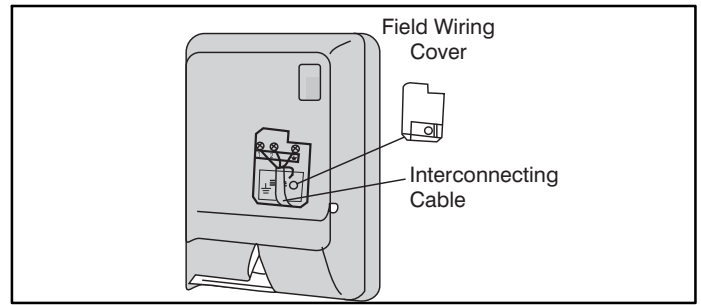

Figure 10 – Field Wiring Cover
5. Open front cover of indoor unit and remove field wiring terminal block cover. See Figure 10.